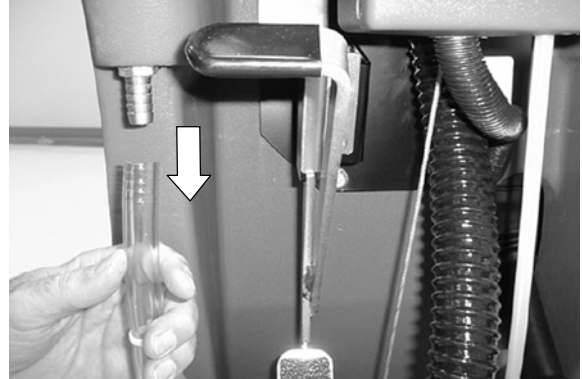

FIG. 16
1. To drain any remaining water from the solution tank, pull the solution tank level hose off the hose fitting, as shown, and drain (Figure 16).